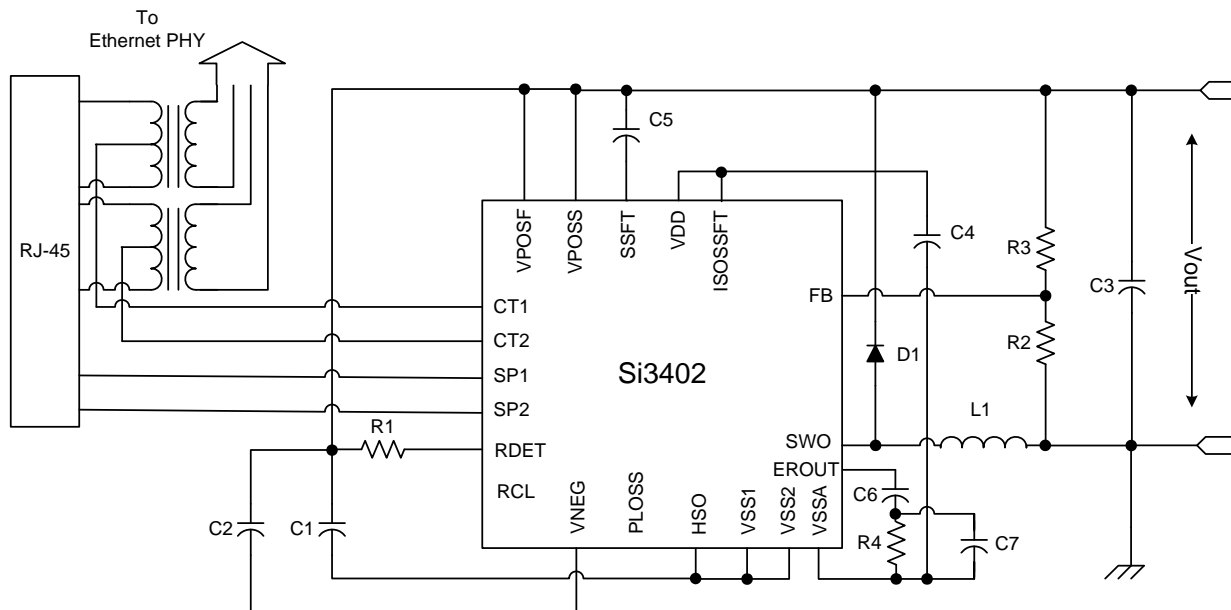

Figure 1. Schematic—Class 0 with Non-Isolated 5 V Output*
6. Applies to non-isolated applications only (VOUT on schematic in Figure 1).
<ol style="list-style-type: none"> 1. Transient surge defined in IEC60060 as a 1000 V impulse of either polarity applied to CT1–CT2 or SP1–SP2. The shape of the impulse shall have a 300 ns full rise time and a 50 μs half fall time with 201 Ω source impedance. 2. The classification currents are guaranteed only when recommended RCLASS resistors are used, as specified in Table 10. 3. IPORT includes full operating current of switching regulator controller. 4. The PD interface includes dual-level input current limit. At turn-on, before the HSO load capacitor is charged, the current limit is set at the inrush level. After the capacitor has been charged within \sim1.25 V of VNEG, the operating current limit is engaged. This higher current limit remains active until the UVLO lower limit has been tripped or until the hotswap switch is sufficiently current-limited to cause a foldback of the HSO voltage. 5. See application note, “AN956: Using the Si3402-B PoE PD Controller in Isolated and Non-Isolated Designs” for more information. 6. Applies to non-isolated applications only (VOUT on schematic in Figure 1).